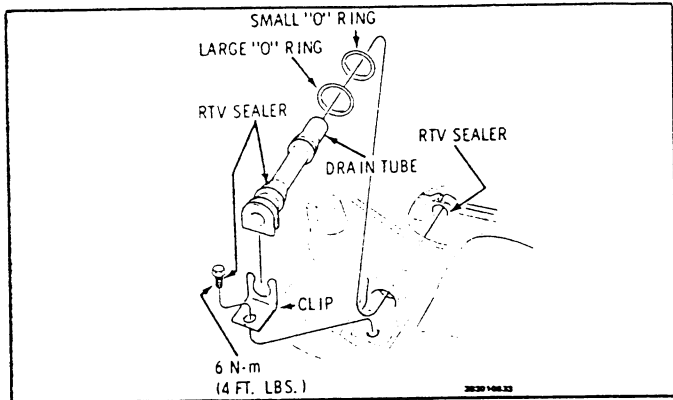

Fig. 17 Intake Manifold Drain Tube
11. Drain tube (Fig. 17)
6. Drain tube (Fig. 17)